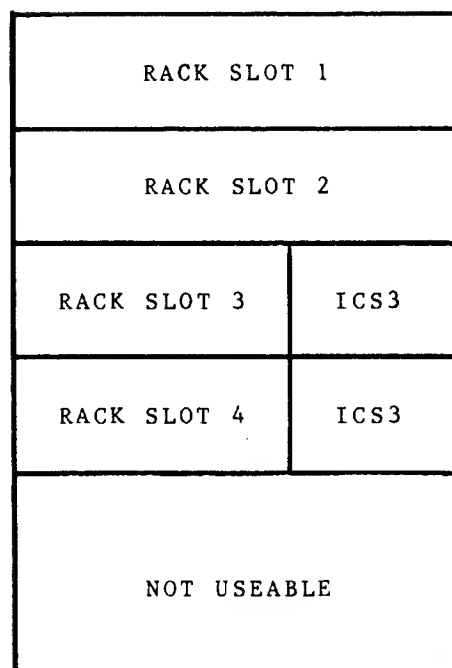

Figure 5-14. 7564S Side View
- REFER TO FIGURE 5-14 FOR
REFER TO FIGURE 5-14 FOR ICS3 CONFIGURATIONS.